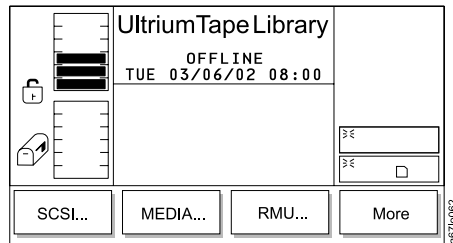

Figure 360. Library Submenu
- Press the button below the **Library** softkey. The Library Submenu displays (see Figure 360).
- Press the button below the **OK** softkey. The library reinventories the cartridges and returns to the Library Submenu (see Figure 360 on page 233).